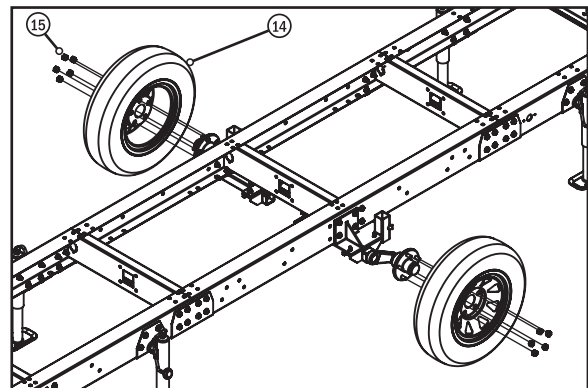

Fig. 12
Step 18: Install the Wheels/Tires. Adjust the height of the trailer so that the Wheels (#14) can be placed onto the wheel hub of each axle. Ensure the wheel is installed with the correct orientation as shown. Secure each wheel onto the hub with five Hub Nuts (#15). Tighten the nuts by hand (Fig. 12). Lower the trailer onto the wheel and chock the tires, then torque the hub nuts between 90 and 120 ft-lbs (122 to 163 N-m).